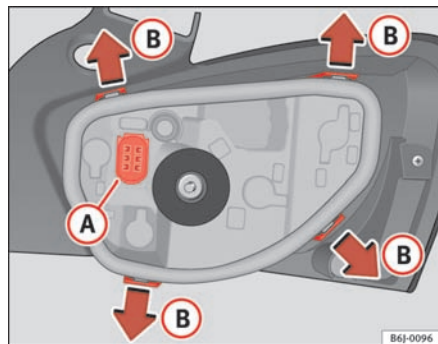

Fig. 142 Changing bulbs on rear lights
- Remove the housing connector (A) ⇒ fig. 142.
- Remove the lamp holder, separating it from the body. To do this, press tabs (B) in the direction of the arrows ⇒ fig. 142.